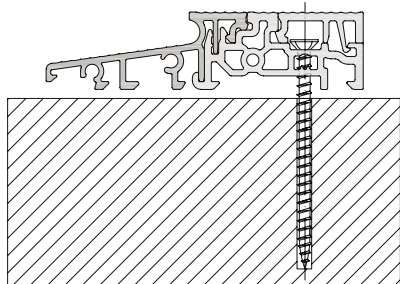

Fig. 4
11. When installing the aluminium sill, the floor under it must be levelled (Fig. 5 p. 8). The sill must be installed with the use of expansion bolts or screws (see Fig. 4, p. 8) at a distance not exceeding 50 cm from each other (Fig. 5, p. 8).